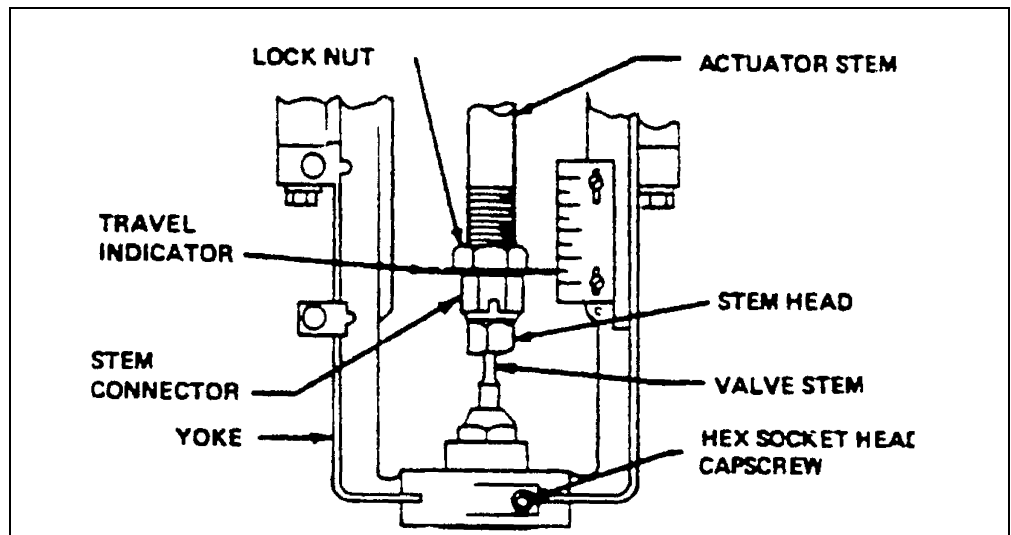

Figure 2: Actuator Removal (Pneumatic Actuator)
- Remove actuator from valve. See Figures 2 and 3 for actuator removal.